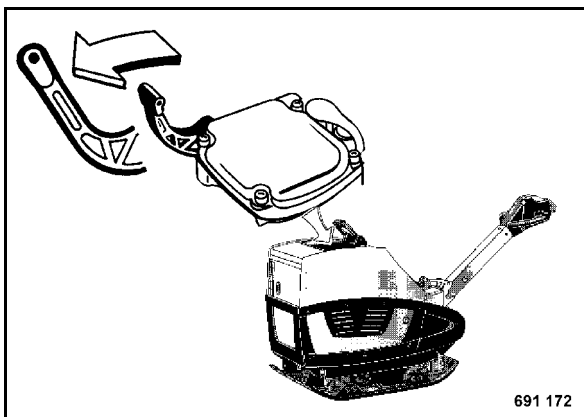

Fig. 25
- Pull the decompression lever (Fig. 25) in direction of arrow to the end stop. The compression lever clicks noticeably into place.